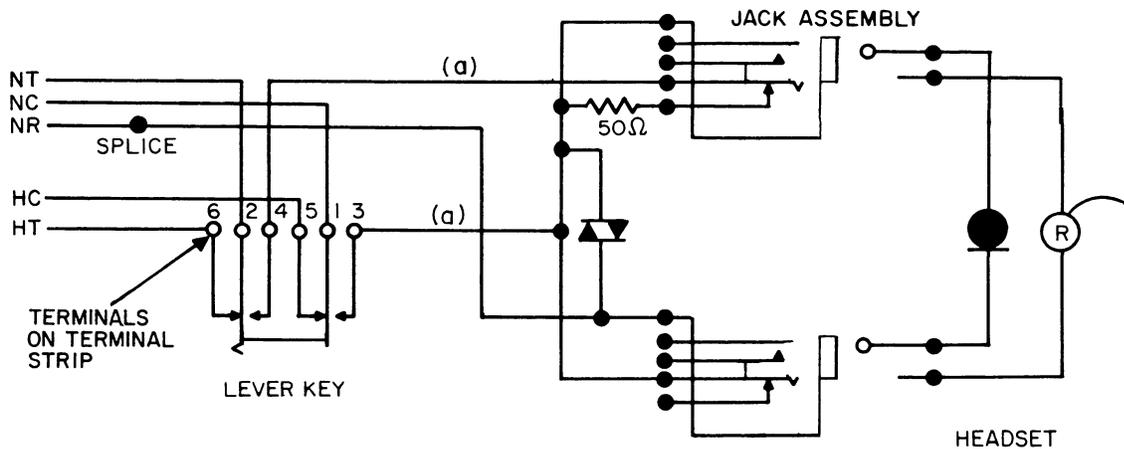

Figure 5. Key-Switched Auxiliary Headset for Dial Telephone Sets Schematic Drawing.
- (1) Install the associated dial telephone set according to the appropriate section in this division of General System Practices.
- (2) Determine the desired locations for the jack box and lever key.
- (3) Remove the cover from the lever key.
- (4) Using mounting hardware appropriate for the type of surface, mount the lever key.
- (5) Using station wire, attach the two (a) leads of Figure 5 to terminals 3 and 4 of the lever key. Leave these leads long enough to reach the jack terminals with the jack box mounted in its desired location.
- (6) Using 10-conductor, 26 AWG. stranded cordage, attach leads to the remaining terminals of the lever key, and the NR lead to the jack as shown in Figure 5. Leave the cordage long enough to reach to the associated telephone set when it is in its normal location. Leave some slack to facilitate moving the telephone about its area of location.
- (7) Remove the telephone set housing.
- (8) Terminate the free ends of the cordage leads in pressure-crimped spade lugs, and connect them to the associated telephone set according to Figure 5 and Table 1 (as appropriate).
(b) Connect leads (a), (a), from the lever key assembly as shown in Figure 5.
(c) Install the varistor and 50Ω, 5 W resistor on the jack terminals as shown in Figure 5.